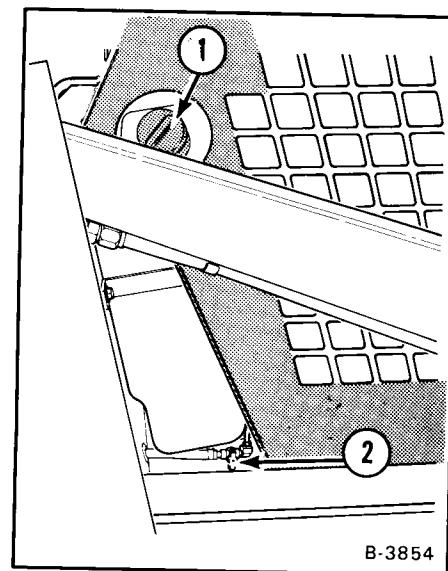

Fig. 45 Fuel Filling Location
Remove the filler cap to service the fuel tank as follows (Fig. 45, Item 1):
5. Tighten the cap on the fuel tank (Fig. 45, Item 1).
1. Close the fuel line shut off valve (Fig. 45, Item 2).